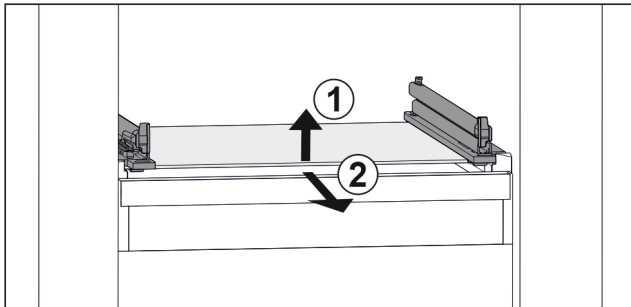

Fig. 76 Example illustration of glass shelf
- ▶ Lift glass shelf at the front. Fig. 76 (1)
- ▶ Take out glass shelf to the front. Fig. 76 (2)